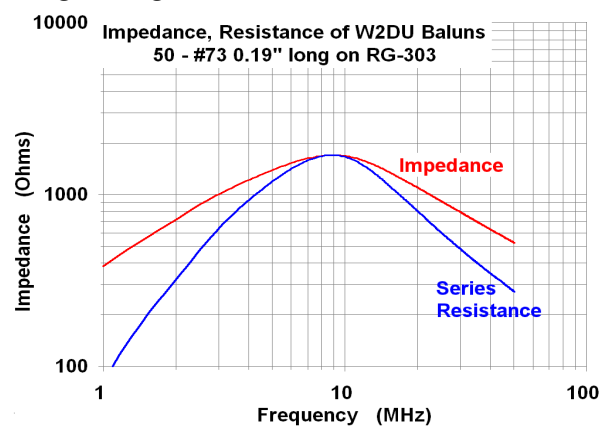

Fig 34 – A W2DU Balun (Measured Data)
- ♦ **Lossy Ferrite Choke Balun** Maxwell introduced the concept of passing a coaxial line through a string of lossy ferrite cores to form a common mode choke, a design which has come to be known as the W2DU balun. Maxwell's design consists of 50 Fair-Rite 2673002402 beads, 0.19" long and just big enough to fit over RG-303 coax (Fig 34). One of his experimental models used 300 beads, and measured 4500 +j3800 ohms at 4 MHz.